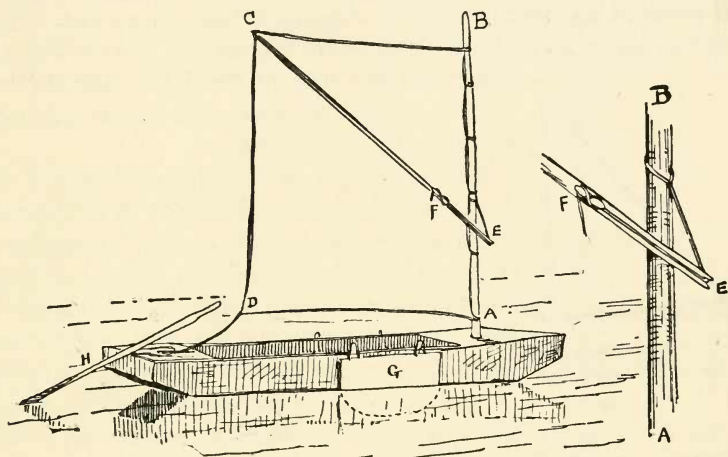
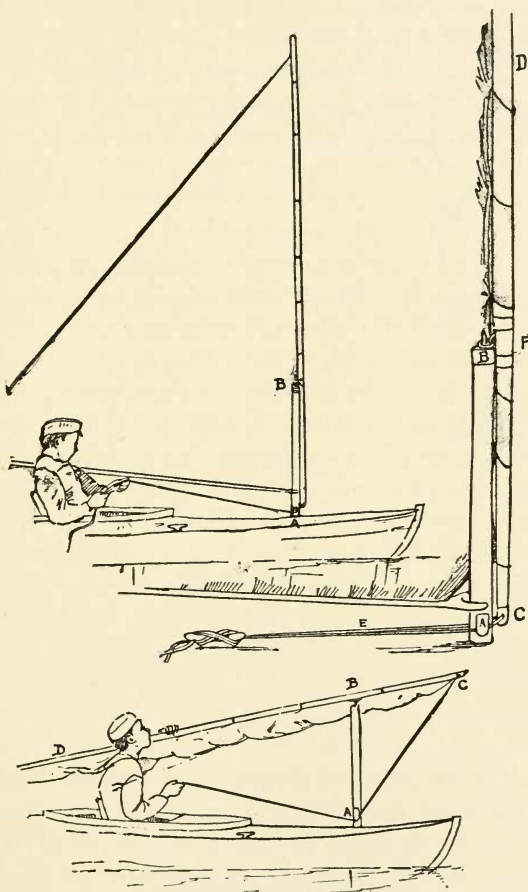
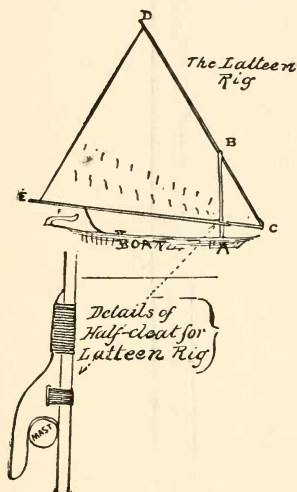

Fig. 143.—A simple rig.
Fig. 145.—A new device.
Fig. 146.—The latteen rig.
I will suppose that the reader has the use of a broad, flat-bottomed boat without any rudder. (See Fig. 143.) She cannot be made to work like a racing yacht under canvas, but lots of fun can be had out of her.
C, E, is trimmed so that the loop at C will fit over it but not slip down. The lower end is simply notched to receive a short line called a “snotter,” as shown in the detailed drawing at the right of the cut (Fig. 143). It will be readily understood that, when the sprit is pushed upward in the direction of C, the sail will stand spread out. The line is placed in the notch at E and pulled up until the sail sets properly, when it is made fast to a cleat or to a cross-piece at F. This device is in common use and has its advantages, but a simple loop for the foot of the sprit to rest in is more easily made and will do nearly as well. H is an oar for steering. Having thus described the simplest rig possible, we may turn our attention to more elegant and elaborate but no' always preferable outfits.
Fig. 145 shows a device, published for the first time in the *St. Nicholas Magazine* for September, 1880, which enables the sailor to step and unstep his mast, and hoist or lower his sail without leaving his seat—a matter of great importance when the boat is light and tottlish, as in the case of that most beautiful of small craft, the modern canoe, where the navigator sits habitually amidships. The lower mast (A, B, Fig. 145) stands about two and a half feet above the deck. It is fitted at the head with a metal ferrule and pin, and just above the deck with two half-cleats or other similar devices (A). The topmast (C, D) is fitted at F with a stout ring, and has double halyards (E) rove through or around its foot. The lower mast being in position (see lower part of Fig. 145), the canoeist desiring to make sail brings the boat's head to the wind, takes the topmast with the sail loosely furled in one hand and the halyards in the other. It is easy for him by raising this mast, without leaving his seat, to pass the halyards one on each side of the lower mast and let them fall into place close to the deck under the half-cleats at A. Then, holding the halyards taut enough to keep them in position, he will hook the topmast ring over the pin in the lower mast-head and haul away (see top part of Fig. 145). The mast will rise into place, where it is made fast.
is recommended only for boats which are "stiff"—not tottlish, that is. The fact that a considerable portion of the sail projects forward of the mast renders it awkward in case of a sudden shift of wind. Its most convenient form is shown in Fig. 146. The arrangement for shipping and unshipping the yard is precisely like that shown in Fig. 145—a short lower mast with a pin at the top and a ring fitted to the yard. It has a boom at the foot which is joined to the yard at C by means of a hook or a
simple lashing, having sufficient play to allow the two spars to shut up together like a pair of dividers. The boom (C, E) has, where it meets the short lower mast, a half-cleat, or jaw, shown in detail at the bottom of the cut (Fig. 146), the circle representing a cross-section of the mast. This should be lashed to the boom, as screws or bolts would weaken it. To take in sail, the boatman brings the boat to the wind, seizes the boom and draws it toward him. This disengages it from the mast. He then shoves it forward, when the yard (C, D) falls of its own weight into his hands and can be at once lifted clear of the lower mast. To keep the sail flat, it is possible to arrange a collar on the lower mast so that the boom, when once in position, cannot slip upward and suffer the sail to bag.
Nothing has been said about reefing thus far, because small boats under the management of beginners should not be afloat in a "reefing breeze." Reefing is the operation of reducing the spread of sail when the wind becomes too fresh. If you will look at Fig. 146 you will see rows of short marks on the sail above the boom. These are "reef-points"—bits of line about a foot long passing through holes in the sail and knotted so that they will not slip. In reefing, the sail is lowered and that portion of it between the boom and the reef-points is gathered together, and the points are tied around both it and the boom. When the lower row of points is used it is a single reef. Both rows together are a double reef.
you may use a "lee-board"—namely, a broad board hung over the side of the boat (G, Fig. 143). This must be held by stout lines, as the strain upon it is very heavy. It should be placed a little forward of the middle of the boat. It must be on the side away from the wind—the lee side—and must
In small boats it is sometimes desirable to sit amidships, because sitting in the stern raises the bow too high out of water; steering may be done with an oar over the lee side, or with "yoke-lines" attached to a cross-piece on the rudder-head, or even to the tiller. In this last case the lines must be rove through rings or pulleys at the sides of the boat opposite the end of the tiller. When the handle of the oar (H, Fig. 143)—or the tiller (F, Fig. 146) if a rudder is used—is pushed to the right, the boat will turn to the left, and *vice versa*. The science of steering consists in knowing when to push and how much to push—very simple, you see, in the statement, but not always so easy in practice.